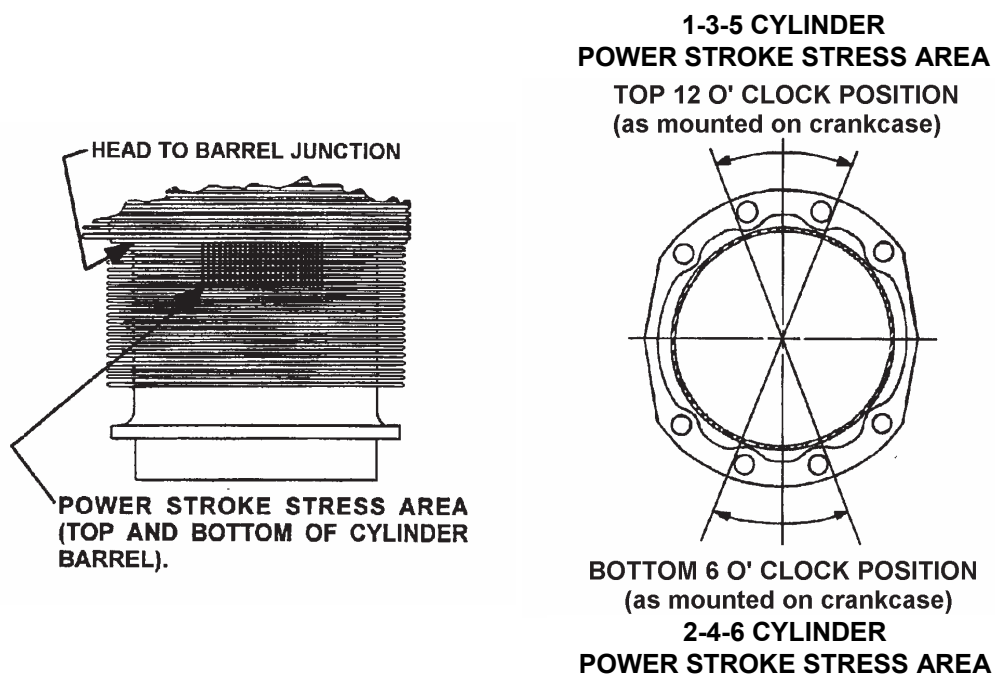

Figure 6-65. Cylinder Power Stroke Areas
2. Inspect the cylinder barrel power stroke areas (Figure 6-65) with an inspection mirror and light for cracks, sharp indentations, chafing, damage or pitting. Repair discrepancies according to instructions in the primary ICA. The power stroke areas include the: